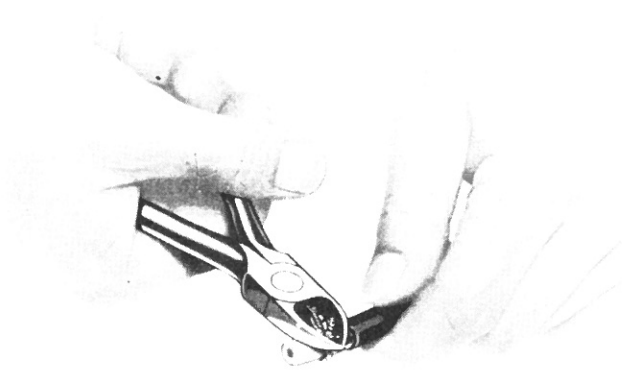
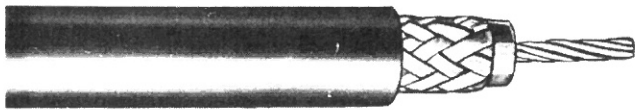

Figure 2-15—Cutting Shielding Wires
Figure 2-16—Cable with Synthetic Covering of Inner Conductor Removed
(2) Unbraid the shielding wires for a distance of one-half inch from the end and cut off evenly as shown in Figure 2-15, Page 2-6. This will expose an additional synthetic covering over the inner conductor. Remove three-eighths of an inch of this by cutting around with a sharp knife and pulling the piece off. The end of the cable should now appear as in Figure 2-16, Page 2-6.